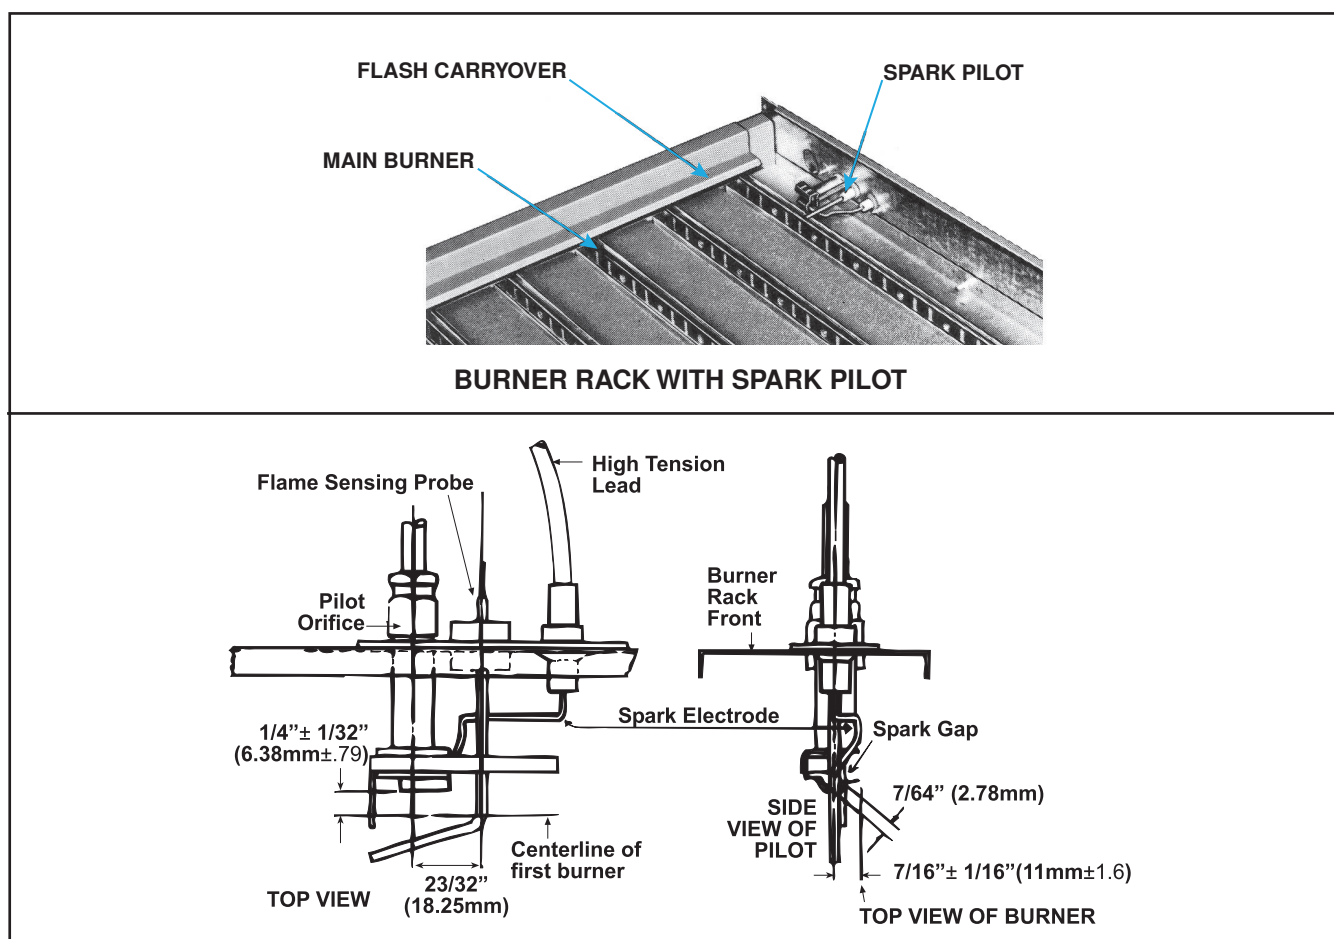

Figure 19. Spark Pilot
The horizontal pilot is located in the control end of the burner rack and is accessible after the control compartment panel has been removed. All pilots are target type with lint-free feature (see Figure 19). Pilot gas pressure should be the same as supply line pressure (refer to Gas Supply Pressure section). If required, adjust the pilot adjustment screw in the control valve body so that pilot flame length is approximately 1-1/4 inches (32 mm).
- Verify that pilot spark gap (see Figure 19) is approximately 7/64 inch (2.78 mm).